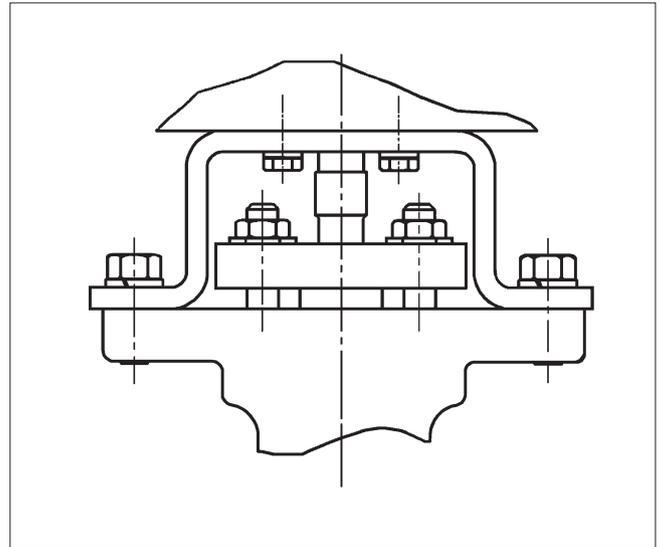

Figure 11.
4. Lower actuator and bracket onto valve while engaging actuator stem driver into coupling. Tighten screws just enough to firmly mate bracket to valve. This should allow bracket to shift, allowing the coupling to align the valve and actuator shafts (See Figure 11, Step 3A).
5. Tighten the no-play coupling screws to torques shown in (Figure 11, Step 3B). Use alternating sequence shown.
7. Fully tighten the screws holding the bracket to the valve, as shown in (Figure 11, Step 3C).
8. Recheck no-play coupling screw torques, using the torques in (Figure 11, Step 3B). Use alternating sequence shown.